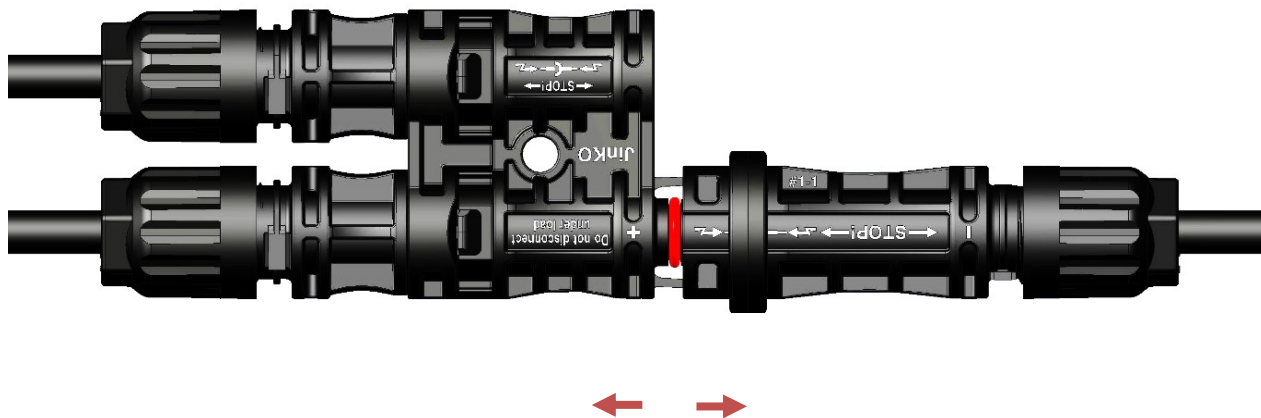

Figure 3
- ✧ 用左右手分别拉拔连接器，即可分开分支连接器与公母电缆连接器（如图 3）。
Separating the branch connector from the male and female cable connector by pulling the connector with both left and right hands. (Fig. 3) .